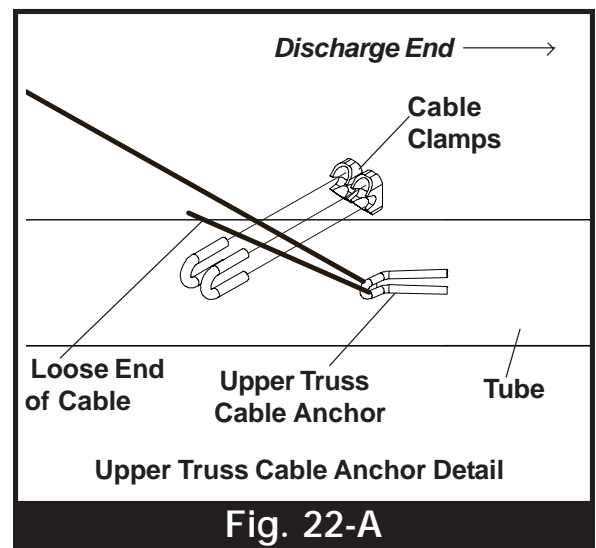

Fig. 22-A
1. Start with the right side of the upper truss cable anchor (located near discharge end) that is welded to the 6" half band. Guide the end of one cable through the cable anchor and attach the loose end of the cable to itself using two (2) sets of cable clamps. (See Fig. 22-A)
2. Run the cables to the top right side of the truss arm and fasten the cable to the truss using a 3/8" cable clamp. **DO NOT** fully tighten the cable clamps. The cable must be able to slide freely through the clamps when taking up the slack. (See Fig. 22-B.)
3. Run the cable down to the right lower eyebolt anchor located on the lower 6" half-band. Slide cable through the eyebolt and fasten loose end of cable using two cable clamps for each cable. (See Fig. 22-C.)
1. Starting with the right side upper truss cable anchor that is welded to the 6" half band located, near the discharge end, guide one end of the 52' support cable through the cable anchor and fasten the loose end of cable to itself using two (2) 5/16" cable clamps. (See Fig. 22-A on page 29)
4. Loop the end of the 31' cable through the right side truss cable anchor located under the 32" truss arm. Fasten cable with (2) 5/16" cable clamps.